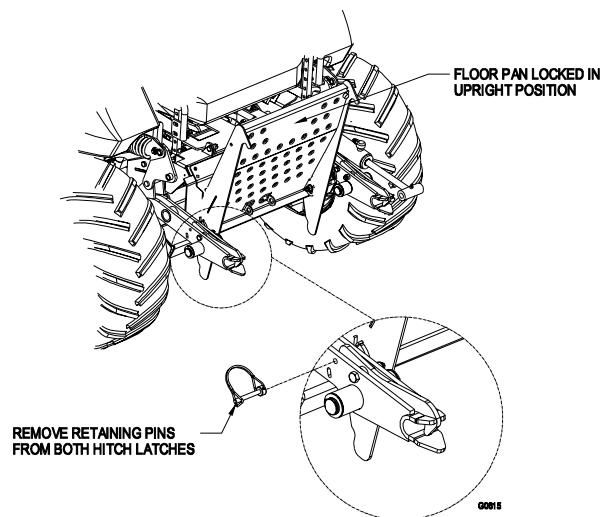

FIGURE 2
- 3.1.3 On the tractor, release the two retaining pins on the hitch latches so the latches can actuate freely. Raise the floor pan and lock in upright position. (See Figure 2).